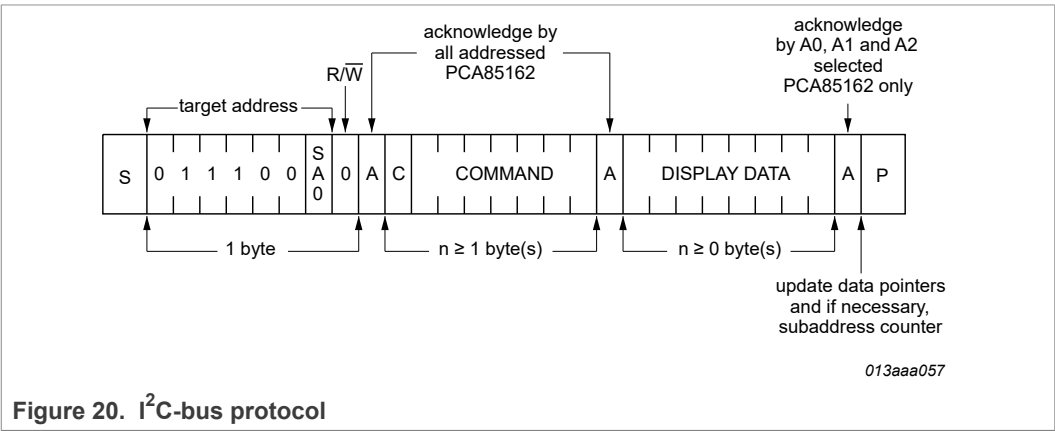

Figure 20. I2C-bus protocol
The I2C-bus protocol is shown in Figure 20. The sequence is initiated with a START condition (S) from the I2C-bus controller which is followed by one of the two possible PCA85162 target addresses available. All PCA85162 whose SA0 inputs correspond to bit 0 of the target address respond by asserting an acknowledge in parallel. This I2C-bus transfer is ignored by all PCA85162 whose SA0 inputs are set to the alternative level.